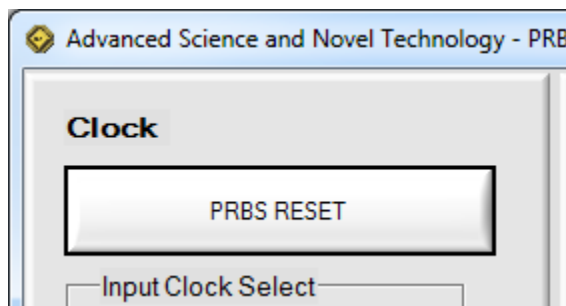

Figure 8. PRBS Reset button
2.4 PRBS Reset – Left-click on the “PRBS RESET” button shown in Figure 8 to reset the internal PRBS generator. This must be done every time clock frequency is changed or upon powering up the unit.